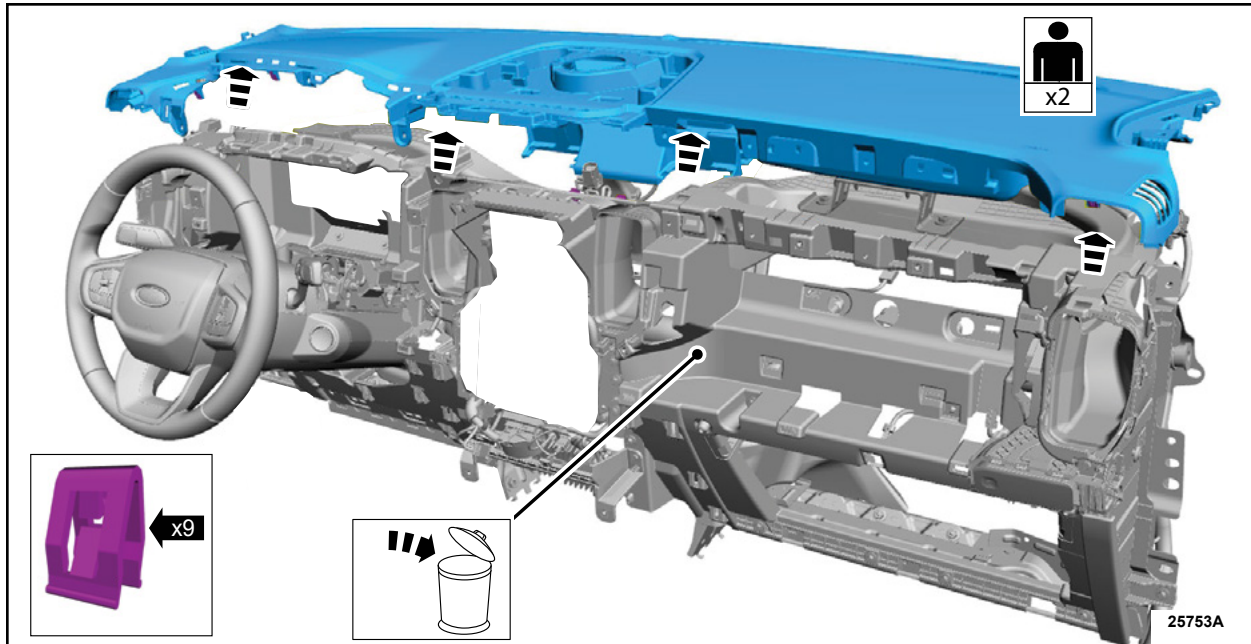

FIGURE 2
4. Lift upwards to detach the clips and separate and remove the instrument panel upper section. Lay the *new* instrument panel upper section on a clean soft surface. Discard the *new* instrument panel upper section frame. See Figure 2.